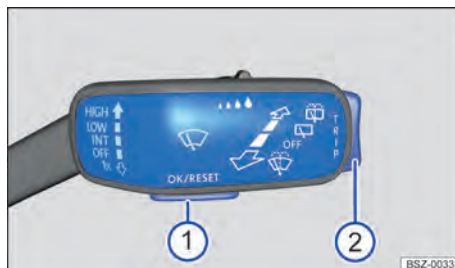

Fig. 11 On the right of the steering column: buttons on the wiper lever (illustration).
Vehicles without multifunction steering wheel: If any priority 1 warning reports are being displayed, you will be unable to open any menus. Some warnings can be confirmed and hidden with the **OK/RESET** button → Fig. 11 ①.
2. Press the **OK/RESET** → Fig. 11 ① button, several times if required, if a message or the vehicle pictogram is displayed.
3. Hold down the **TRIP** → Fig. 11 ② rocker switch to display the menus → page 23 or to return to the menu selection from a menu or an information display.
5. To open the menu or information display shown, press the **OK/RESET** button → Fig. 11 ① or wait until the menu or information display opens automatically after a few seconds.
2. Press the **OK/RESET** button → Fig. 11 ① to make the required changes.